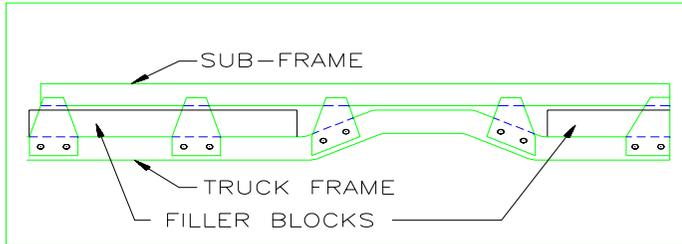

Figure 1: Sub-Frame
1. Remove the box from the truck frame. Construct a subframe or filler blocks for trucks with frames too wide or those that do not have a straight frame (pickups) (see Figure 1). In the following instructions, the subframe will be referred to as the truck frame for this type of truck.